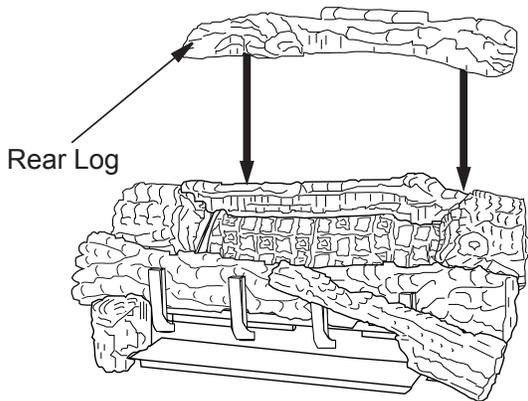

Figure 35 - Installing Rear Log
- Rest rear log in back corner sections of chassis assembly as shown in **Figure 35, Page 20**.